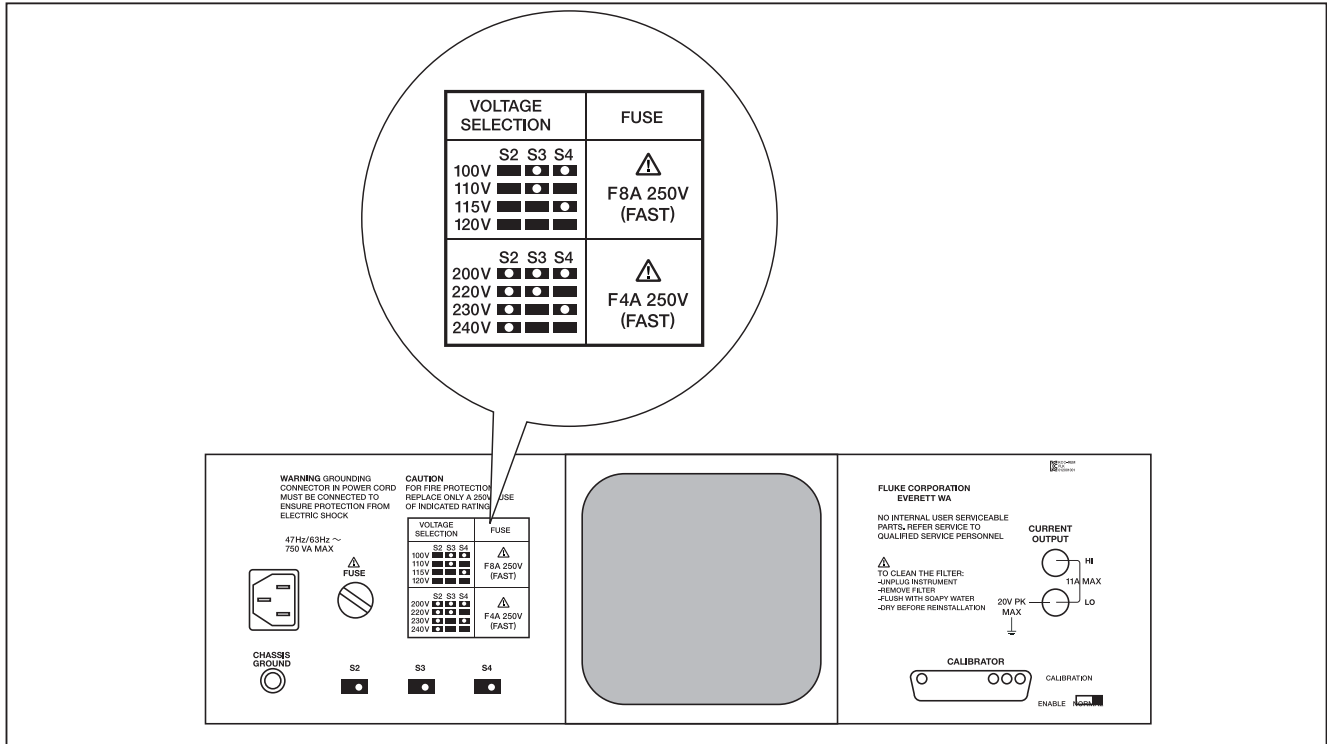

Figure 4. Line Power Label and Switch Location
The 5725A arrives from the factory configured for the line voltage normally appropriate for the country of purchase, or as specified at the time of purchase. Check the line power label on the rear panel of the 5725A to verify that the line voltage matches local line power. Figure 4 shows the location of the line power label and switches, and the switch settings for each line voltage.
To change the line voltage setting, set the line voltage selection switches to the correct setting shown in Figure 4.
**Before turning the 5725A on, make sure that the line voltage selection switches are set properly for your line voltage. Refer to Figure 4 or the line voltage switch label and check the line voltage setting now if you have not already done so.**